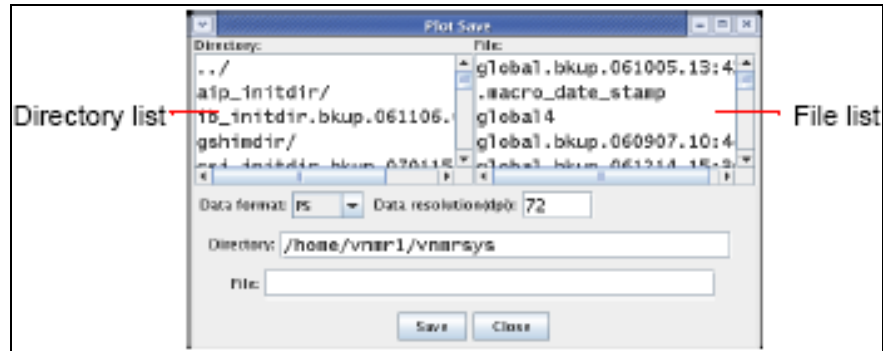

Figure 49 Plot Save Window
1. Click **File** in the Main Menu, then **Save Data** to open the Plot Save window shown in Figure 49.